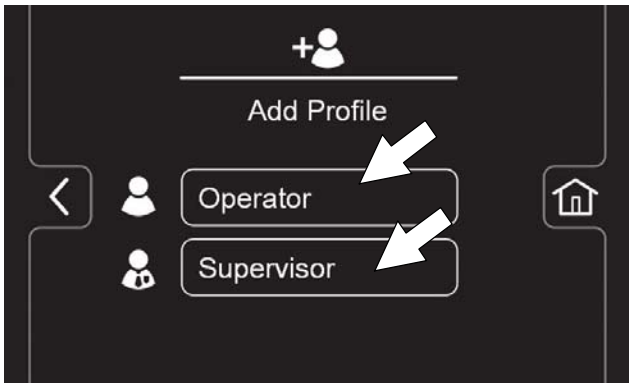

FIG. 171
3. Press the Operator button to add an Operator mode profile or press the Supervisor button to add an additional supervisor mode profile (Figure 171).